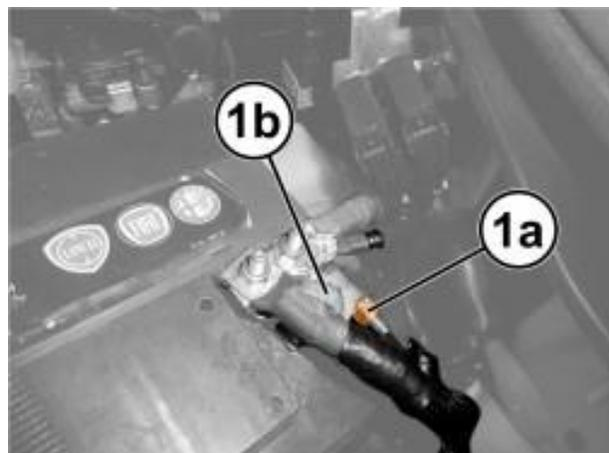

Figure 3 – Battery Positive Terminal
5. Remove the positive battery terminal cover, releasing the retainers (Figure 3).
6. Loosen the nut (1a) and disconnect the battery positive terminal (1b) (Figure 3).
16. Connect the positive battery terminal and tighten the nut (1a) to 16.5 N·m (12 ft. lbs.) (Figure 3).